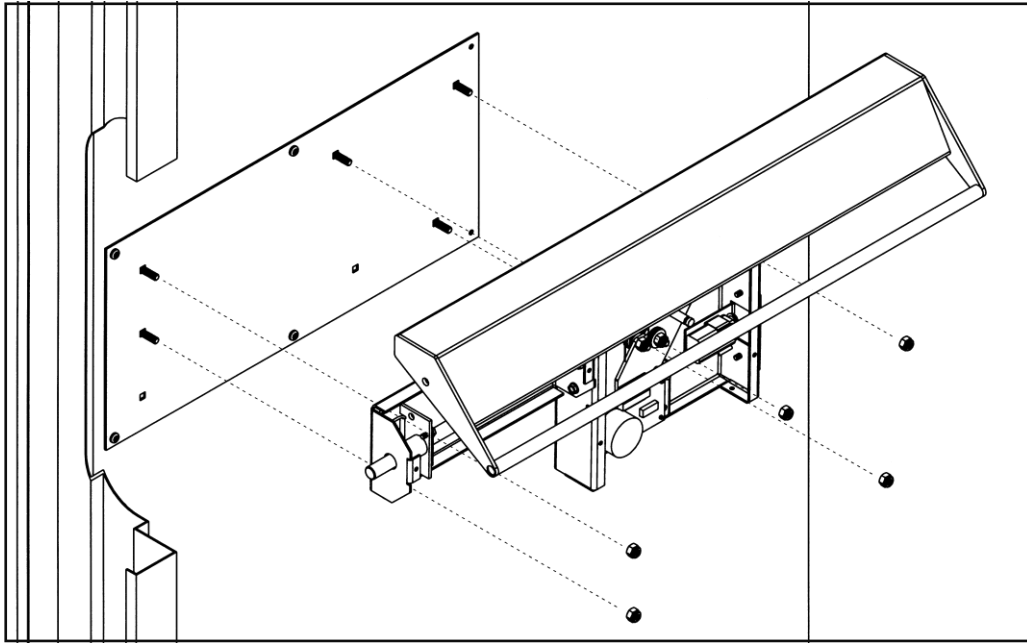

FIGURE 4 - HOLLOW METAL INSTALLATION SHOWN
6. Mount the Sur-Lock™ to the inside surface of the door (See Figure 4).